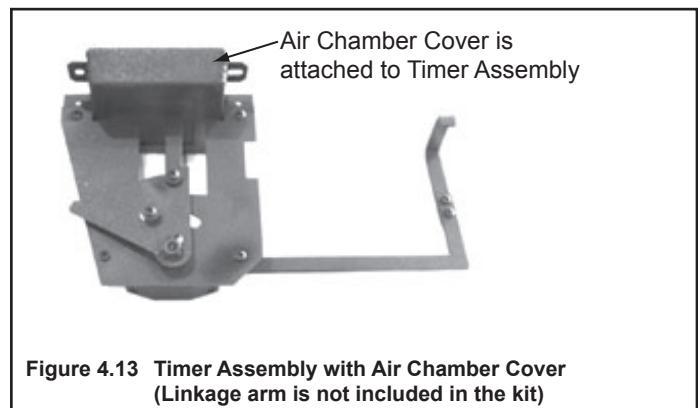

Figure 4.13 Timer Assembly with Air Chamber Cover
**NOTICE:** The timer assembly included in this kit comes with the air chamber cover attached (Figure 4.13).